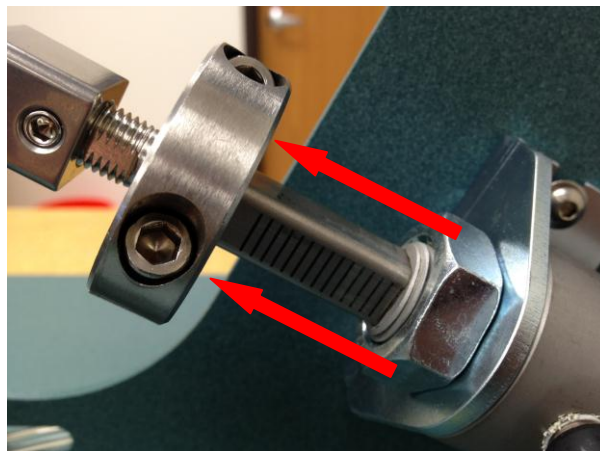

Figure 5
- Loosen the two bolts on all three stop collars and slide them forward on the cylinder shaft to where the threads start and tighten the bolts on all three stop collars. (**Figure 5**)